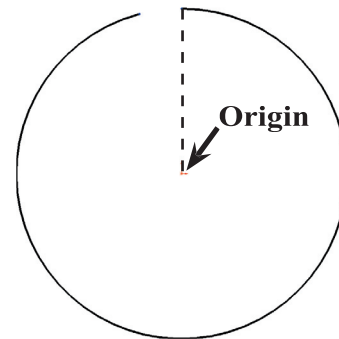

Fig. 2
Step 3. Click **Centerpoint Arc**  (S) in the **Arc flyout**  on the Sketch toolbar.
Step 4. Draw a slightly open arc starting from the Origin , **Fig. 2**.
To draw the arc, click the Origin to place the center of the arc. Start the first end point directly above the Origin, then swing the arc to the right around counterclockwise. Click to place the second end point leaving a small gap in the arc, **Fig. 2**.